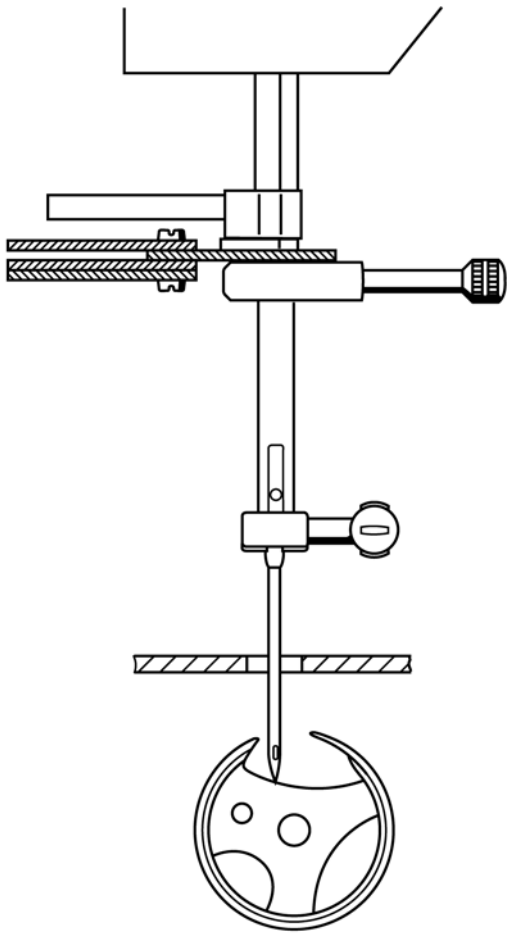

Fig. 35
- Bring the needle bar to its lowest position by turning the handwheel (fig. 35).